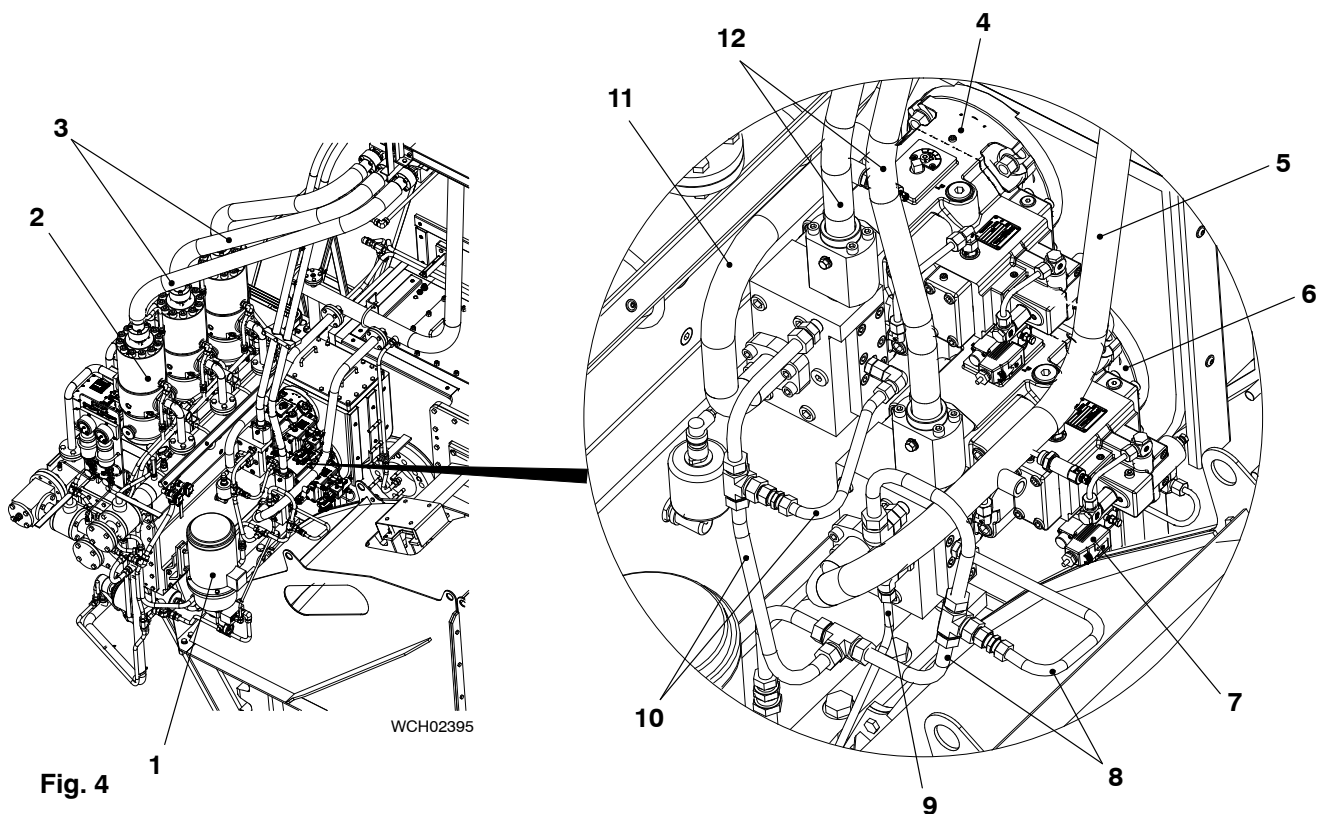

Fig. 4
- 3) Remove the HP servo oil pipes (12, Fig. 4) (refer to 8447-1).